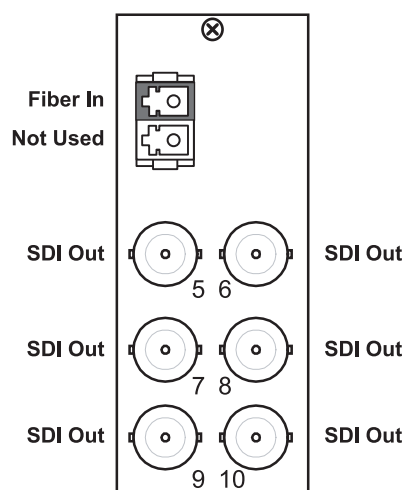

Figure 2.3 Cable Connections for the 8320AR-044 Rear Module
- **8320AR-044** Full Rear Module — Each rear module occupies two slots and accommodates one card. This rear module provides an optical input, and six SDI outputs. Refer to **Figure 2.3**.